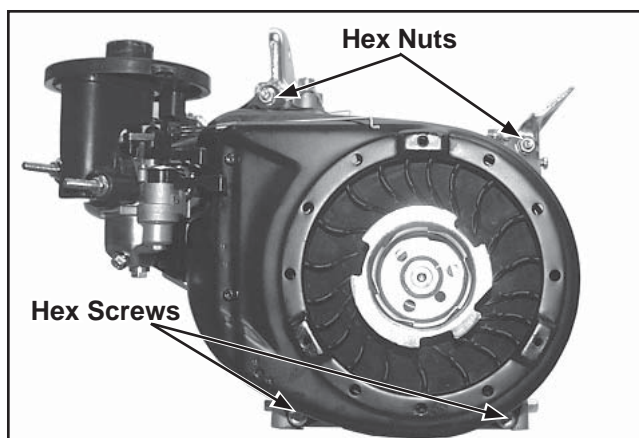

Figure 11-71. Installing Blower Housing.
2. Install the blower housing on the crankcase with two hex flange nuts and two hex flange screws. Torque nuts to **8 N·m (71 in. lb.)** and screws to **10 N·m (89 in. lb.)**. See Figure 11-71.